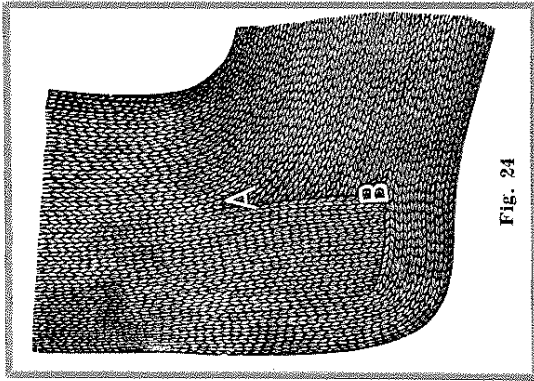

Fig. 24
27.—To knit a heel with a gore, as in Fig. 24, proceed from this point as follows:—Knit Forwards and Backwards 25 rows, taking care to see that first and second needles on Left and Right receive yarn from yarn-guide, otherwise stitch will run off. Heel—Narrowing—(Continue as directed on page 16).